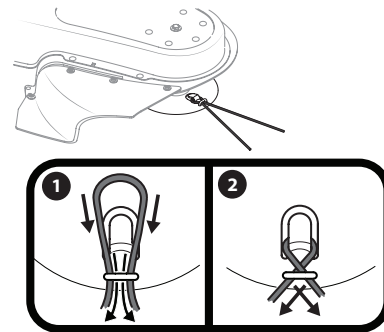

Figure 6
4. Cross the line ends and pull each tightly to secure the trimmer line in place. See Figure 6.